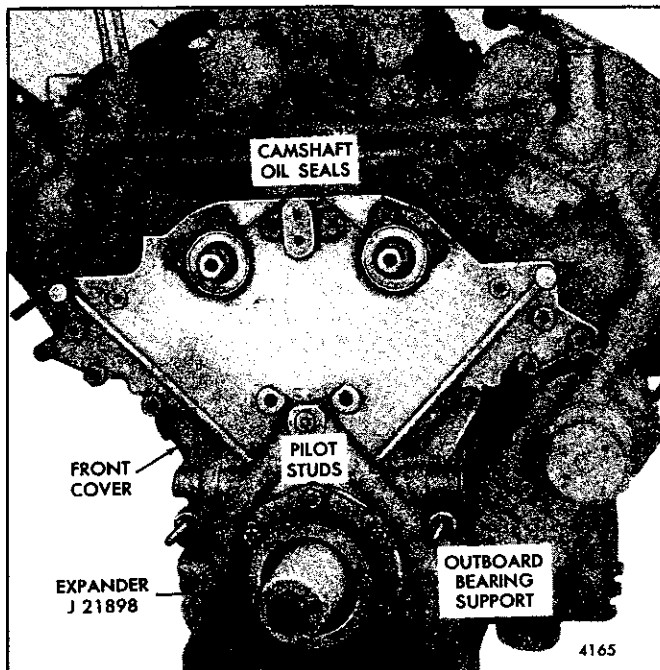

Fig. 4 - Installing Engine Front Cover - 8V-Engine
3. Install two pilot studs (Fig. 4) into diametrically opposite bolt holes in the cylinder block to guide the engine front cover in place.
- a. Install oil seal expander J 21898 (Fig. 4) over the end of the crankshaft. Then apply a light coat of cup grease to the lip of the oil seal and install the outboard bearing support over the oil seal expander and against the engine front cover. Remove the seal expander.